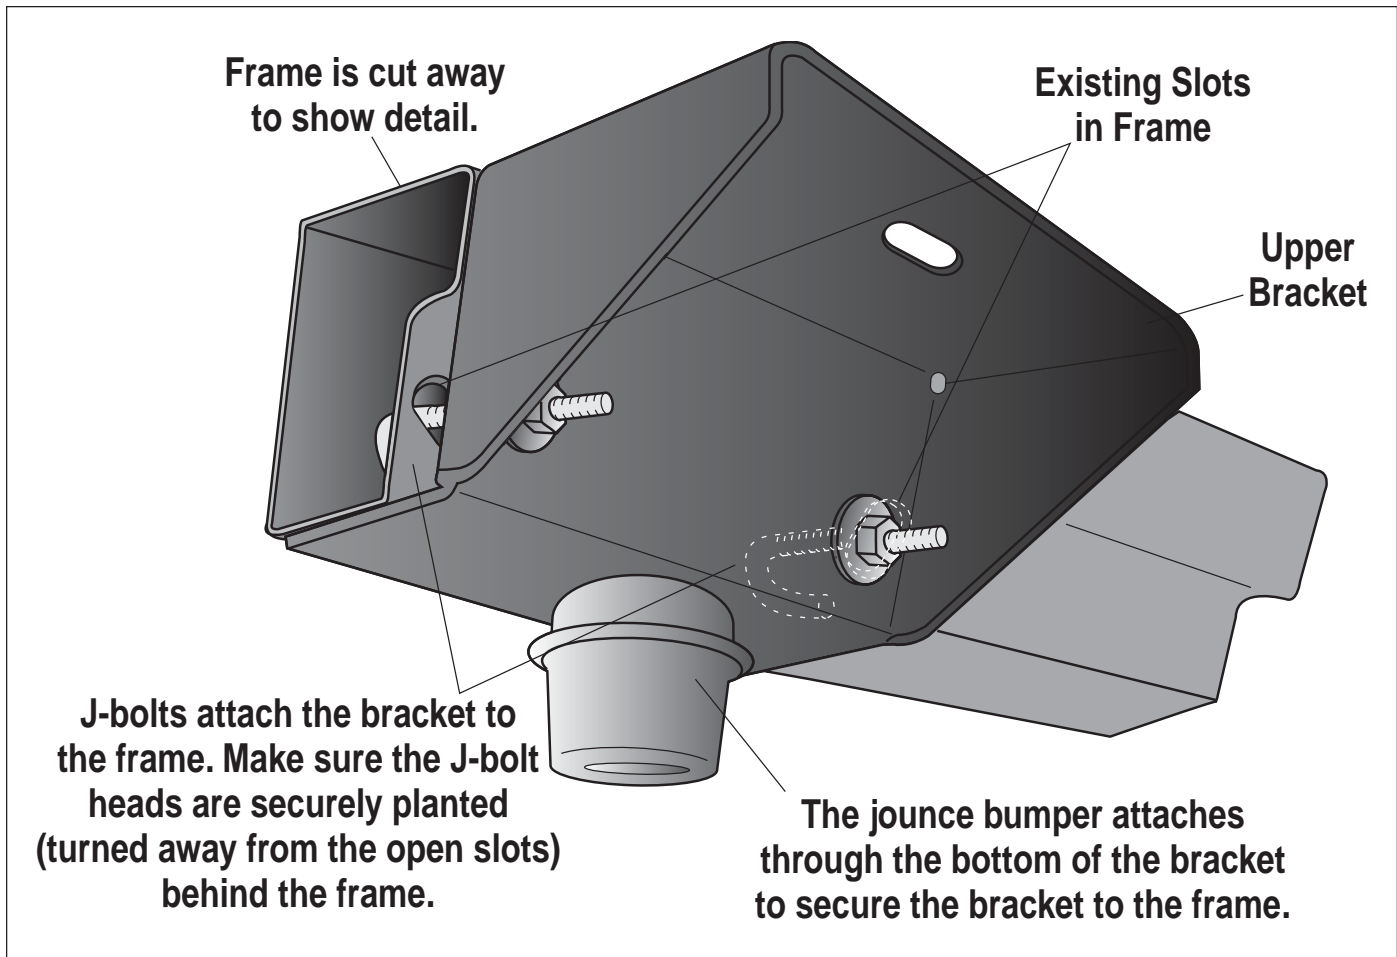

Figure 2
4. Insert the curved part of the J-bolts into the existing slots in the frame. Be sure the J-bolts lock onto the frame securely (Figure 2). Tighten all hardware at this time.